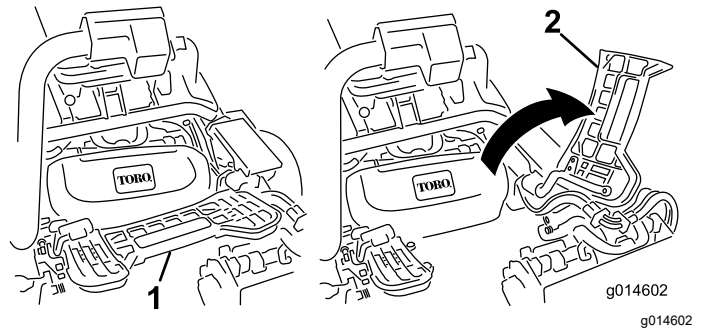

Figure 45
1. Lift up on the footrest and swing it open, allowing access to the center cutting unit position (Figure 45).